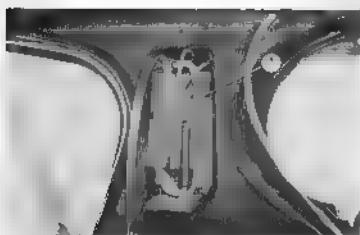

Fig. 5.35 Battery
- Remove the battery box, disconnect the battery cable from the battery, unscrew the battery band and then remove the battery (Fig. 5.35).